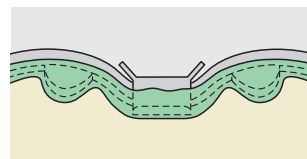
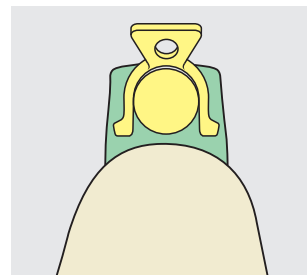

Fig. 5
Fig. 6
Then block out the gingival aspects of the abutment units circumferentially and occlusally as well as the bar and rider on the model (Fig. 5). Ensure that the lamellae of the riders are blocked out adequately (Fig. 6) so that they remain fully flexible while being fitted and removed. If necessary, position the cast strengthener over the bar rider and complete the acrylic using standard dental technical methods.
4. Block out any undercuts on the bar (Fig. 5)
6. Block out any undercuts on the bar and the lamellae of the rider (Figs. 5 and 6)